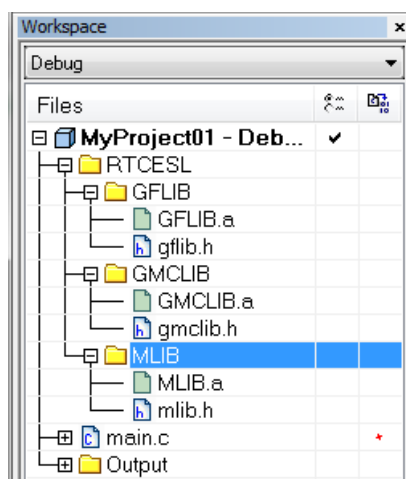

Figure 1-43. Project workspace
4. Click on the newly created node MLIB, and go to the main menu Project > Add Files... See Figure 1-43.
15. Now you will see the files added in the workspace. See Figure 1-43.